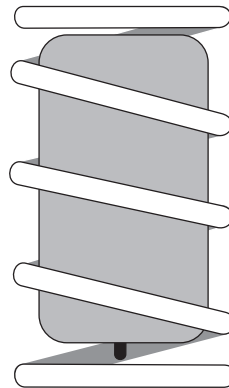

fig. C.2
1. Place air cylinder into coil spring with the air stem facing down (Fig. C.2)